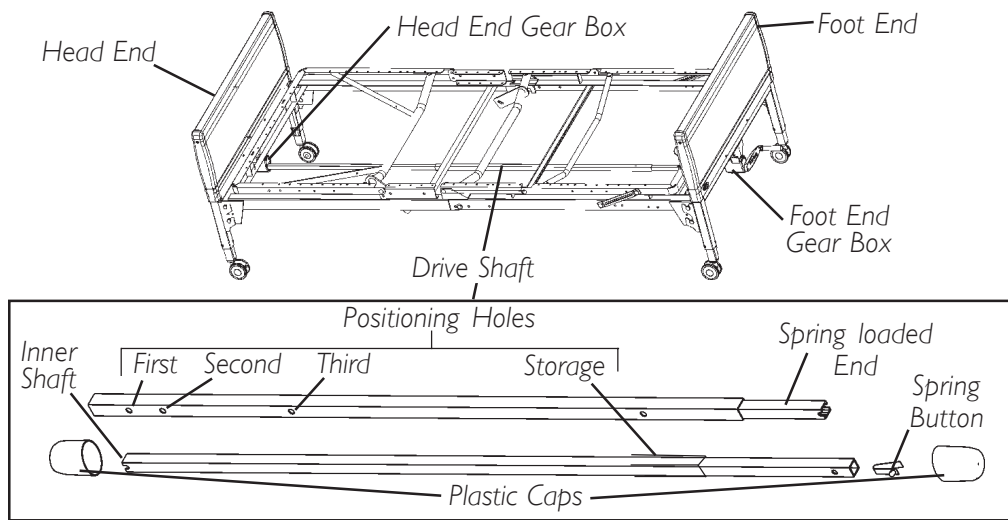

FIGURE 7 - DRIVE SHAFT ASSEMBLY AND INSTALLATION
DRIVE SHAFT ASSEMBLY AND INSTALLATION (FIGURE 7 & 8)
- A. For semi-electric and manual beds, use the first positioning hole. See FIGURE 7.
- B. For beds with single shaft gear boxes use the second positioning hole. See FIGURE 7.
- C. For full electric models, use the third positioning hole. See FIGURE 7.